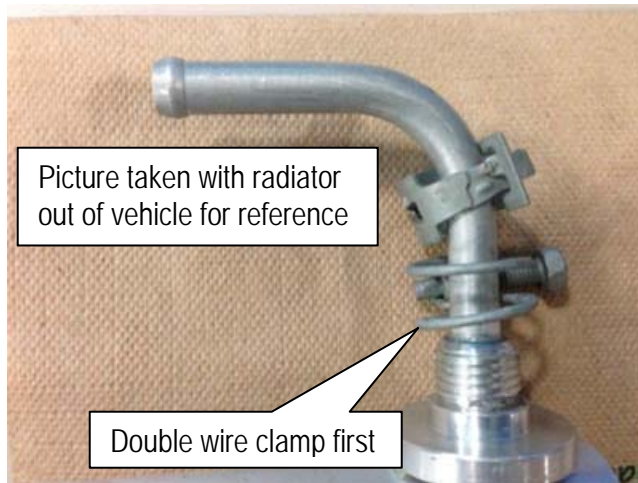
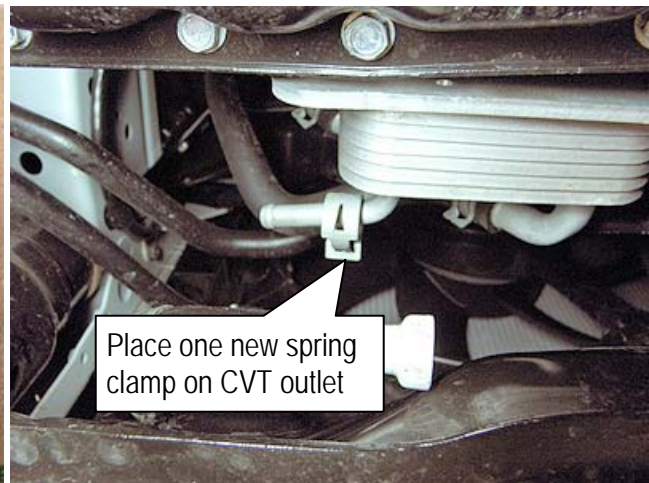

Figure 3
Figure 4
5. Slide two clamps onto the radiator side (Figure 3), and then one spring clamp onto the CVT side cooler line fittings (Figure 4).